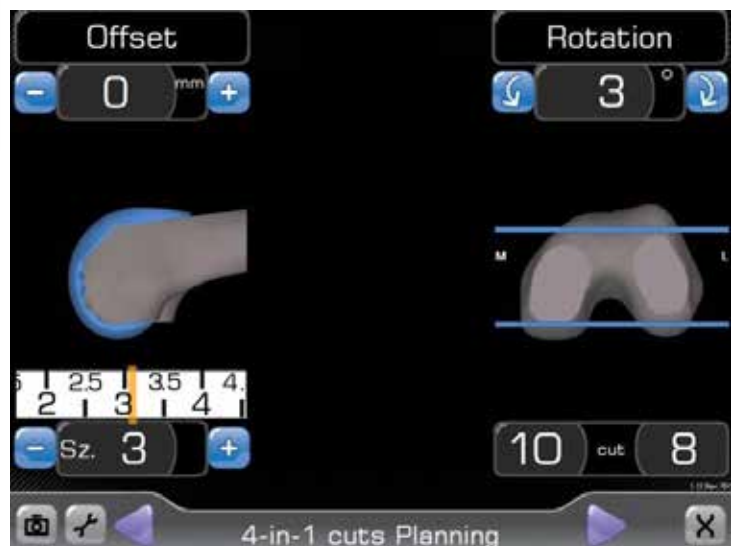

Figure 27
The 4-in-1 cuts Planning screen is displayed (Figure 27). The values indicate the planned position of the femoral component. The anterior-posterior offset, component size and femoral rotation values can be adjusted. Select the Forward button on the Probe Tracker (P) to advance to the next screen.